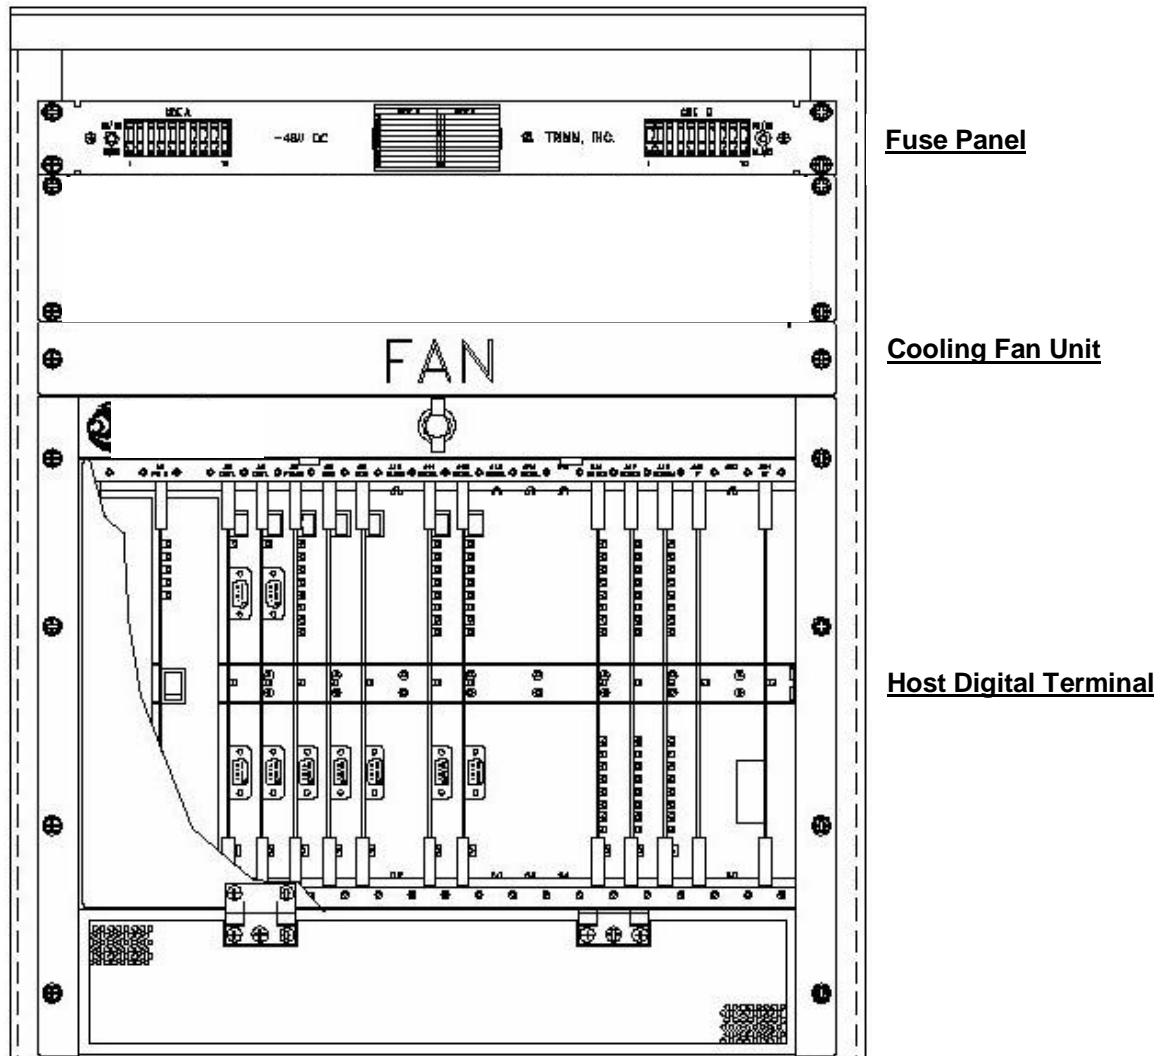

Figure 1 – Rack Assembly
Following the order outlined here facilitates mechanical installation. Install the Fuse Panel (FP), Cooling Fan Unit (CFU), and Host Digital Terminal (HDT), from top to bottom in the rack. Figure 1 shows the arrangement of the rack assembly.